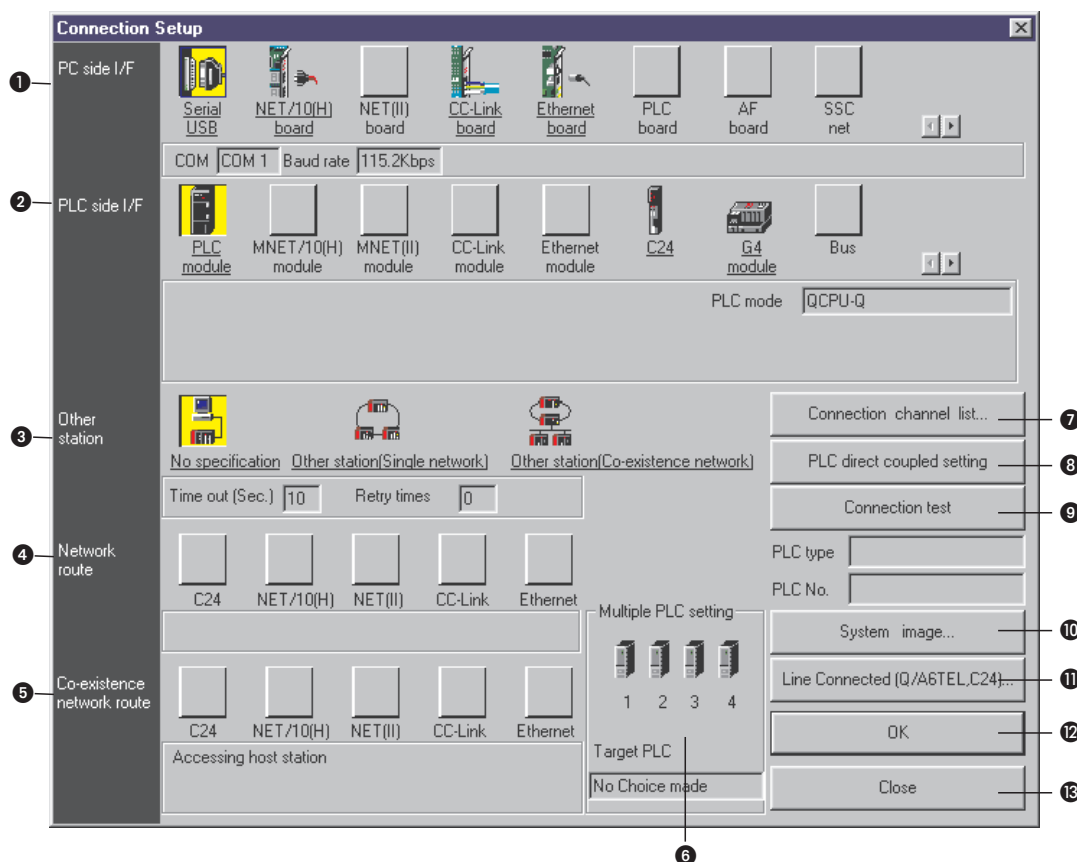

Fig. 8-4: Transfer Setup
①	PC side I/F Choose the I/F for the connection of the PC to the PLC.
②	PLC side I/F Choose the unit to be connected with the personal computer.
③	Other station Choose no network or one of the specified network types.
④	Network route Choose the network type, network No., station number and first I/O No. to be accessed. The setting items depend on the network type that has been set.
⑤	Coexistence network route Choose this when making access to the network different from the one where the personal computer is connected. Choose the network type, network No., station number and first I/O No. to be accessed. The setting items depend on the network type that has been set.
⑥	Multiple PLC setting Specify when the access target is multiple CPUs. You can connect up to four PLC CPUs. In this option you decide which CPU is to be connected.
⑦	Connection channel list... Lists possible connection modes and their image. You can set the connection target while looking at the Connection channel list.
Tab. 8-1: Description for Fig. 8-4 (1)
⑧	PLC direct coupled setting By clicking this button you change from Other station to the own station.
⑨	Connection test Tests whether proper access can be made to the PLC set as the access target on the Connection Setup screen. If proper access can be made, the model name of the PLC as the access target appears in the CPU type field.
⑩	System image Here you see an image of the setup system.
⑪	Line connected (Q/A6TEL,C24)... Clicking on this button opens a dialogue to setup a modem connection.
⑫	OK Closes the dialogue and saves the settings.
⑬	Cancel Closes the dialogue without saving.
Tab. 8-1: Description for Fig. 8-4 (2)
The in Fig. 8-4 shown dialogue is opened.